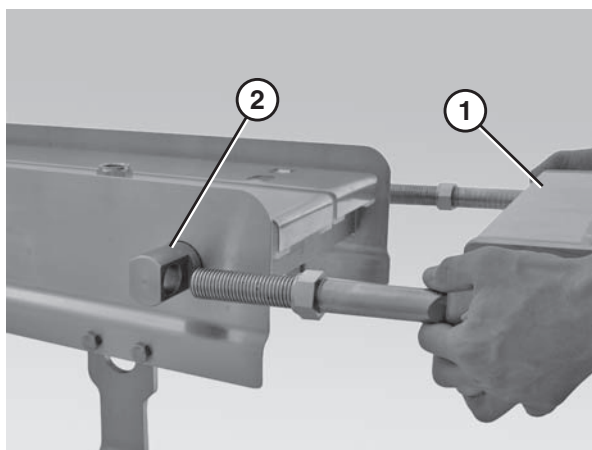

Figure 70
2. Slide the nose bar tail assembly (**Figure 70, item 1**) out of the take up blocks (**Figure 70, item 2**).